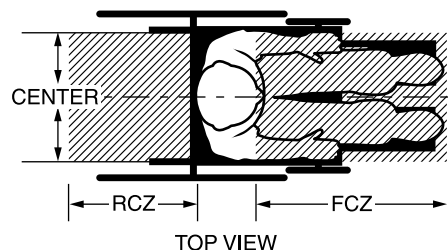

Figure 7. Recommended Clear Zones for Power Chair-seated Occupants
- The frontal clear zone (FCZ) is measured from the forwardmost point on the occupant's head and should measure at least 26 in. (65 cm) if both a pelvic and upper-torso belt are used. See figure 7.
- The rear clear zone (RCZ) is measured from the rearmost point on the occupant's head and should measure at least 16 in. (40 cm). See figure 7.
- The seated head height (HHT) ranges from about 47 in. (120 cm) for a small adult female to about 61 in. (155 cm) for a tall adult male. See figure 7.